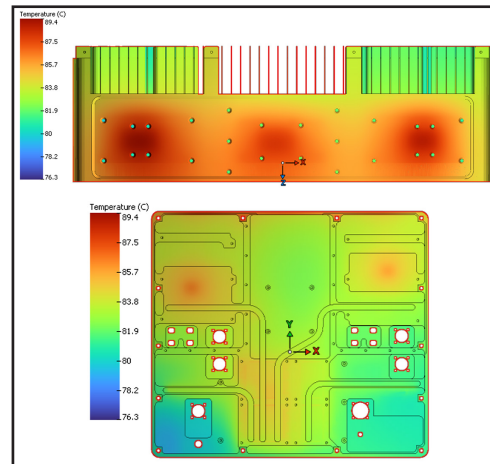

Figure 5. Surface Temperature Contours of the System's Rear Chassis
- Six heat pipe routing configurations (Figure 5)